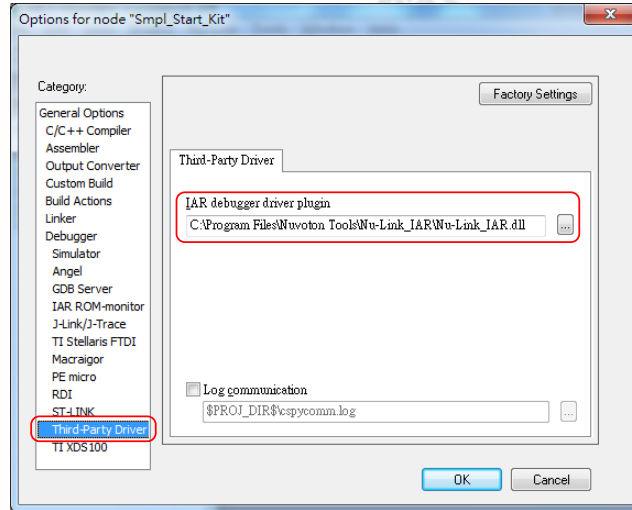

Figure 4-18 Set the Path of the IAR EWARM Debugger Driver Plugin
Step 7: In the **Third-Party Driver** page, specify the path of the IAR debugger driver plugin “C:\Program Files\Nuvoton Tools\Nu-Link\_IAR\Nu-Link\_IAR.dll”, as shown in Figure 4-18.